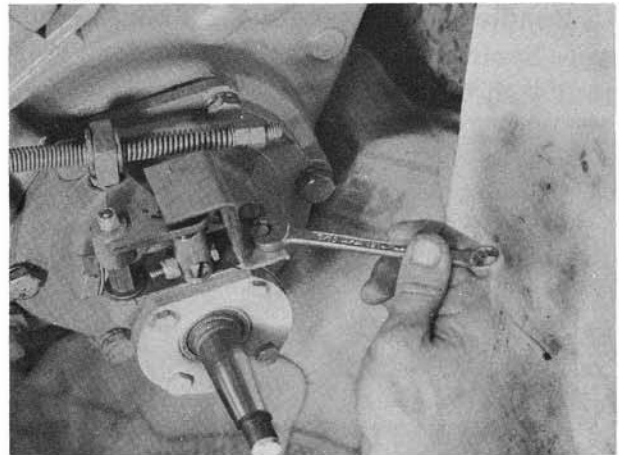

Figure 47
25. Install the Shifter Guard and tighten with two Hex Head Cap Screws (191-S) as shown in Figure 47.